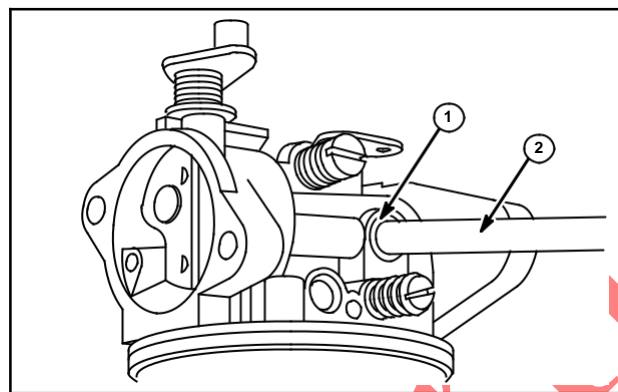

Fig. 107
1. Install welch plug(s) (1) with pin punch (2) slightly smaller than outside diameter of plug.
3. After plug is installed, seal outside edge of plug with fingernail polish or non-hardening sealant, Fig. 107.